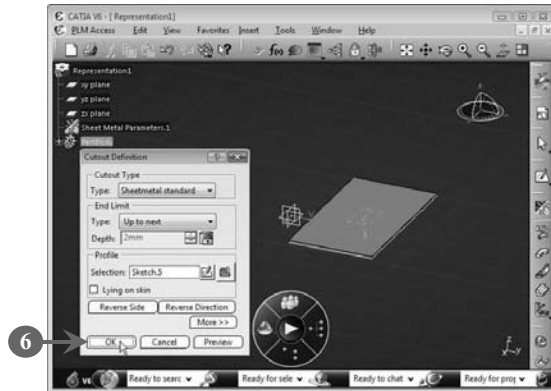

FIGURE 6.75
The **Cutout Definition** dialog box opens (Figure 6.75).
5. *Select* the sketch drawn on the base wall, as shown in Figure 6.75: